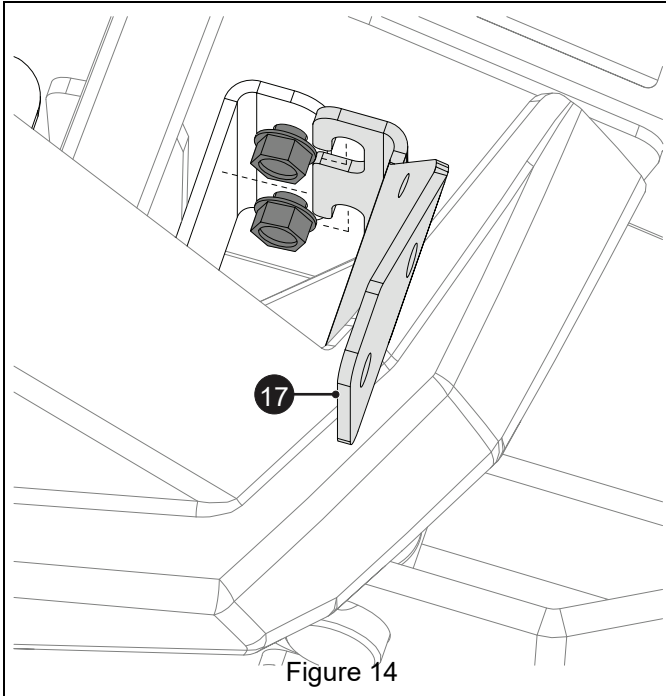

Figure 14
2. Position the right light mounting bracket (Item 17) behind the tapping screws and tighten. See Figure 14.